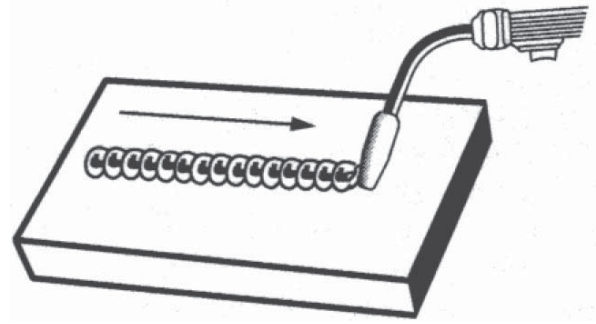

Figure 13. Stringer Bead
1. The STRINGER BEAD (Figure 13) is formed by traveling with the gun in a straight line while keeping the wire and nozzle centered over the weld joint. This is the easiest type of bead to make.